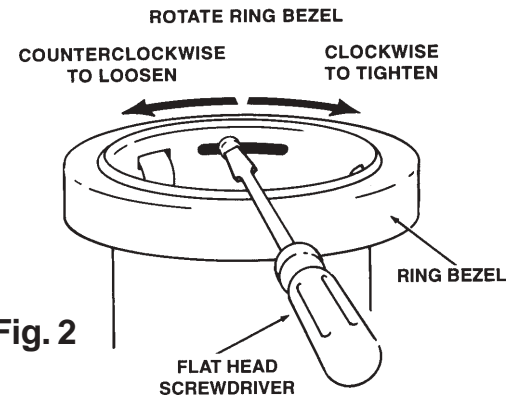

Fig. 2
- Check the dispensing action. If more than one cup comes out at a time, loosen the screw and rotate the ring bezel slightly clockwise. If the cups are difficult to remove or the rims are damaged, loosen the screw and rotate the ring bezel slightly counterclockwise and retighten the screw. (see Fig. 2)